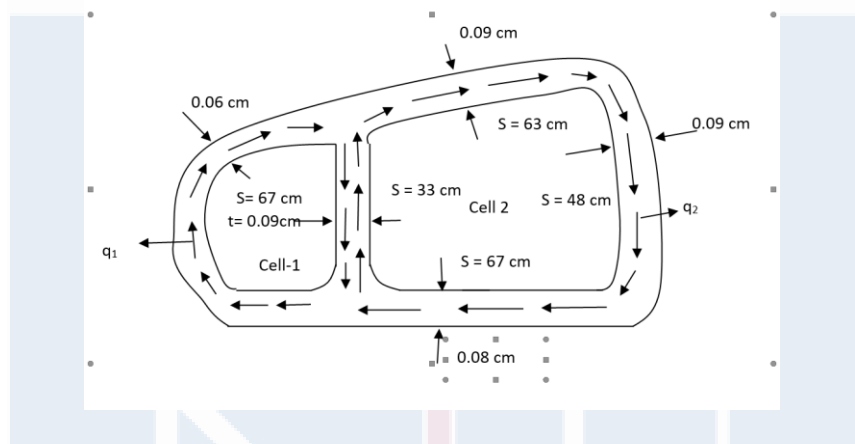

Fig.1
12. Figure 1 shows a two cell tubular section having one interior web. An external torque of 10,000 N-m is acting in a clockwise direction. Determine the distribution of internal shear flow. The peripheral lengths are as shown in figure. The cell areas are as follows:  $A_1 = 800 \text{ cm}^2$  and  $A_2 = 1780 \text{ cm}^2$ .